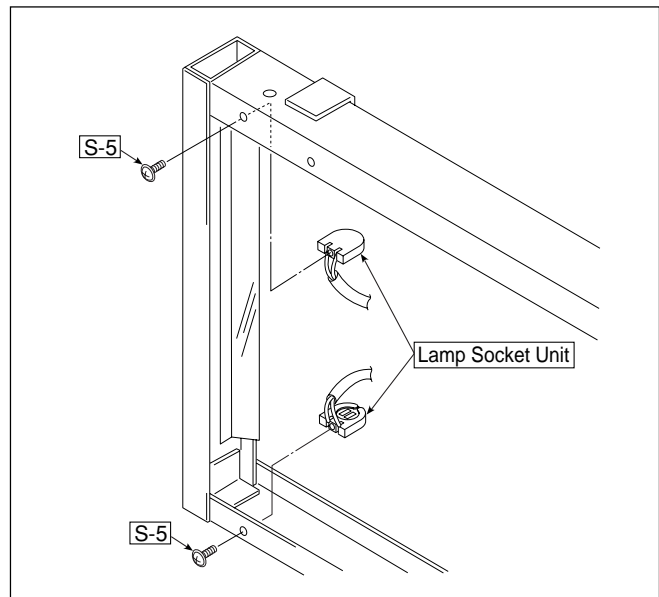

Fig. 21
- 12) Remove the Lamp Socket Unit. (See Fig. 21.)
1. Remove the "S-5" screw shown in Fig. 21 and then remove the Lamp Socket Unit.